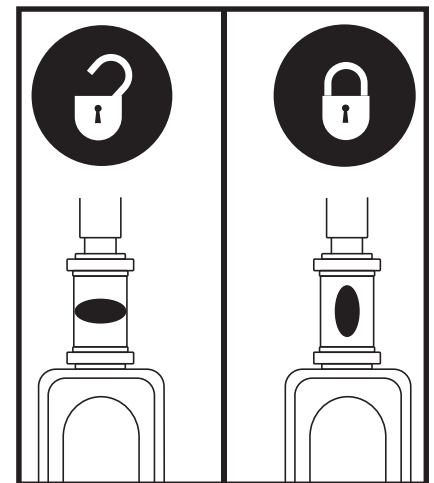

Figure 31. Tiller Lock Knob
2. Lock the tiller in the straight ahead position by pushing the tiller lock knob in and turning it clockwise 90°. See **figure 31**. The front wheel must face forward in order to lock the tiller.
1. Remove the key from the key switch and then lock the tiller in the straight ahead position by pushing the tiller lock knob in and turning it clockwise 90°. See **figure 31**. The front wheel must face forward in order to lock the tiller.
6. Unlock the tiller by turning the tiller lock knob 90° counterclockwise. See **figure 31**.